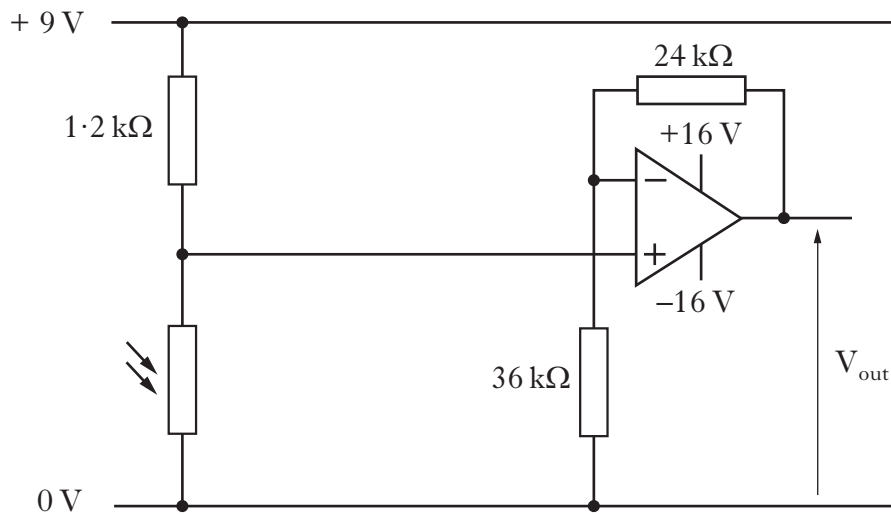

Figure Q2
2. The circuit shown in Figure Q2 is used in a light-sensing system for a camera.